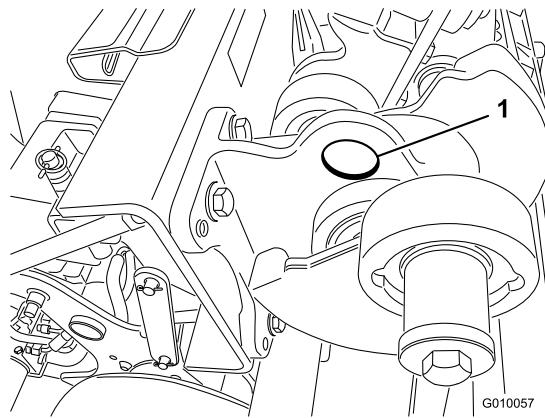

Figure 42
**Note:** If available, a hoist can be used to lift the rear of the machine. Use the eyelets in the coring head bearing housings as hoist attachment points (Figure 42).